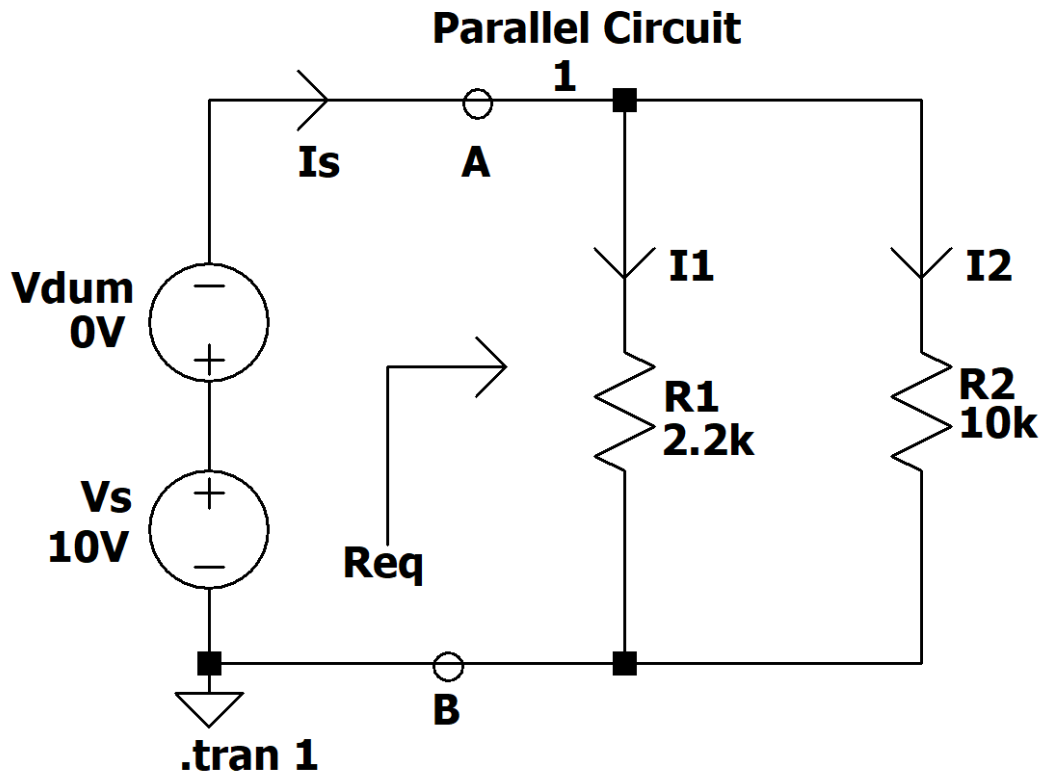
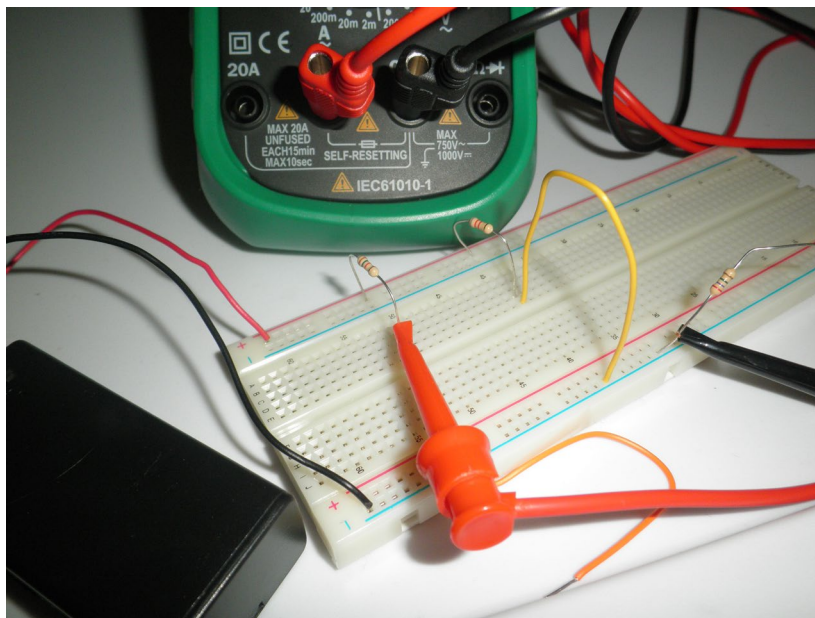

Figure 2. Parallel circuit
Figure 6. Measuring I_1 using an ammeter. Measure I_2 by reinserting the orange jumper and replacing the yellow jumper with the ammeter in a similar manner.
4. Consider the circuit of Figure 2. Compute the voltages and currents of Table 2. Use the 'hand analysis' column of Table 2 to report your results.
5. Simulate the circuit of Figure 2 in LTspice® using a transient analysis. Use the 'simulation' column of Table 2 to report your results.
6. Compute and record the equivalent resistance R_{eq} 'seen' by the source in Figure 2. Use R_{eq} to verify the value of I_s .
8. Construct the circuit of Figure 2 as shown in Figure 5.
11. Place DMM in a current measurement mode and insert into the circuit as shown in Figure 6 to measure I_1 . **REMEMBER THAT AN AMMETER IS A SHORT. IT MUST BE IN SERIES AS SHOWN.** The ammeter REPLACES the orange jumper.
Figure 5. Circuit of Figure 2 constructed using a breadboard. Voltage V_s is being measured. Note that the lead of one resistor is used to probe the circuit ground. Since only one lead is being used that resistor has no effect on the circuit. The orange jumper wire will be replaced with an ammeter to measure I_s in Figure 6.